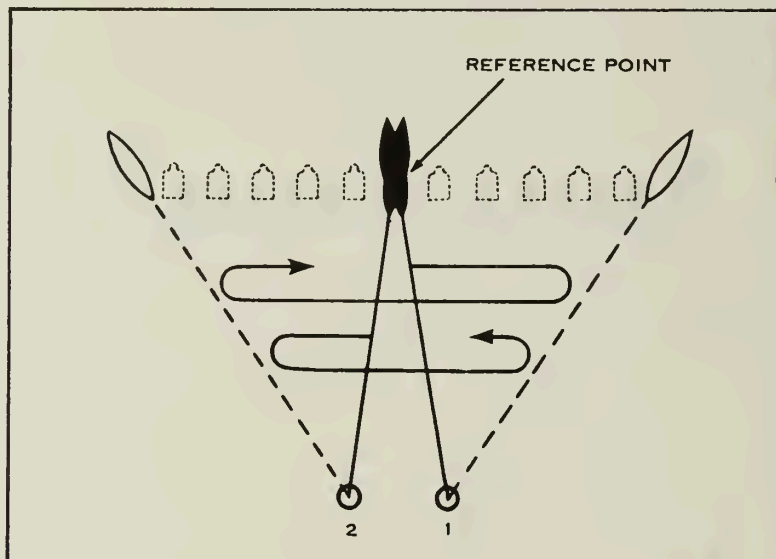

Figure 114. --Engaging a Wide Target Using a Reference Point Within the Target Area.
c. When the flanks of a wide target are indistinct, the squad leader may use a reference point to designate them. When a reference point within the target area is used, both guns open and adjust their fire on the center base of the reference point. They then traverse to their respective flanks and continue to engage the target as if the reference did not exist. An example of a fire command to engage a wide target with indistinct flanks by using a reference point within the target area is: (See fig. 114.)